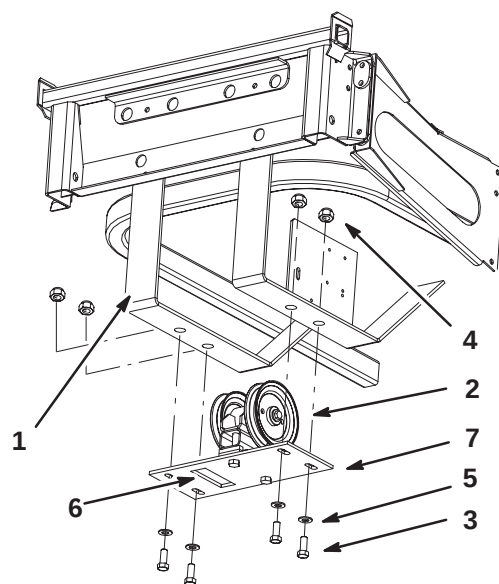

Figure 10
Note: Make sure the cut-out in the pulley plate is on the left-hand side of the machine (Fig. 10). This cut-out allows room for the PTO spring loaded idler pulley.
2. Install the pulley assembly under the rear frame, and loosely install 4 bolts (1/2 x 1-1/4 in.), 4 washers (1/2 in.) and 4 locknuts (1/2 in.) (Fig. 10). **Do not tighten bolts now.**
1. Push the drive pulley assembly all the way forward and then rearward a 1/4 in. (6 mm) (Fig. 10).
2. Tighten the 4 bolts (1/2 x 1-1/4 in.), 4 washers (1/2 in.) and 4 locknuts (1/2 in.) (Fig. 10).
1. Push the drive pulley assembly all the way rearward and then forward a 1/4 in. (6 mm) (Fig. 10).